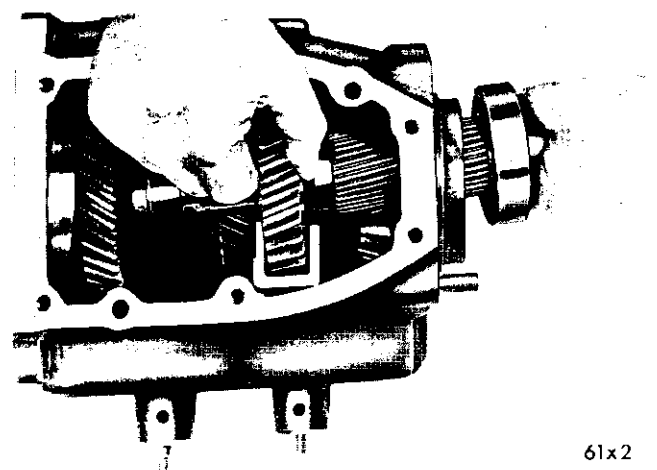

Fig. 6—Removing the Mainshaft Assembly
(7) Remove the mainshaft and bearing out through the rear of the case (Fig. 6).
(8) Remove the low and reverse shift fork from the case.
(1) Place the oil slinger on the main drive pinion with the offset outer portion next to the drive pinion teeth (Fig. 6).
(2) Place the main drive pinion bearing on the pinion shaft with the outer snap ring away from the pinion gear.
(3) Press the bearing into position so it is seated firmly against the oil slinger and pinion gear.
(4) Install the bearing retaining snap ring on the pinion shaft, using snap ring pliers Tool C-3301. Be sure the snap ring is seated in its groove. (The snap ring should be selected to eliminated end play).
(5) Coat the 15 pilot bearing rollers with heavy grease and install them in the cavity at the rear of the main drive pinion.